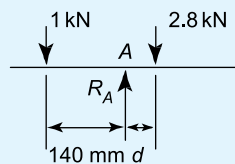

Figure 6.7
1. Determine distance d and the force acting at the support A for the force system shown in Figure 6.7, when the system is in equilibrium.
2. If the 1 kN force shown in Figure 6.7 is replaced by a force F at a distance of 250 mm to the left of R_A , find the value of F for the system to be in equilibrium.